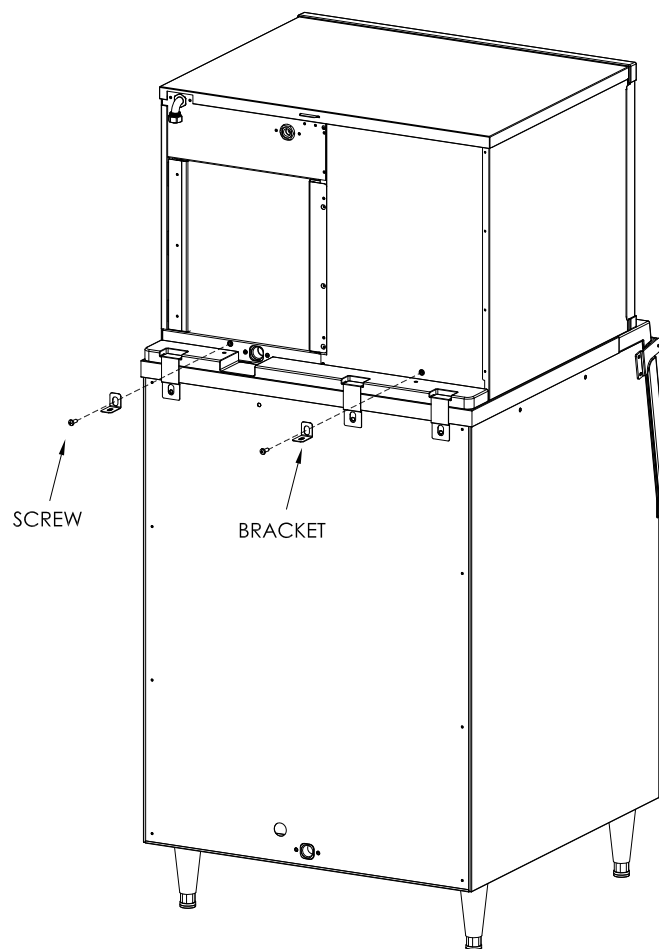

Fig 3
Install modular ice machine referring to Fig 3 and below instructions.
- Unscrew the two thumb screws (3) and (4) to disassemble the front insulation (E) as shown in Fig 3 and 4.
[Fig 3]